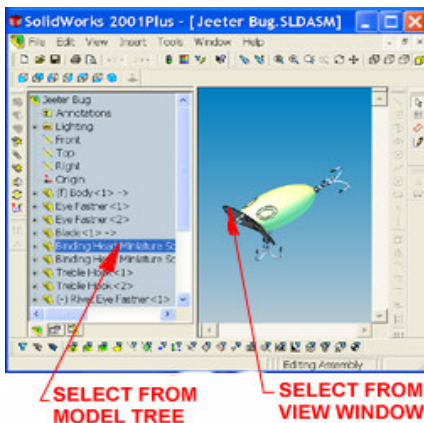

Figure 5
*Density Manager* allows the user to select components for change two different ways. The user can **preselect components** to change in SolidWorks prior to activating *Density Manager* via menu picks. The user can select by picking edges, faces, or vertices of parts, or by selecting parts in the model tree, or both (see *Figure 5*).